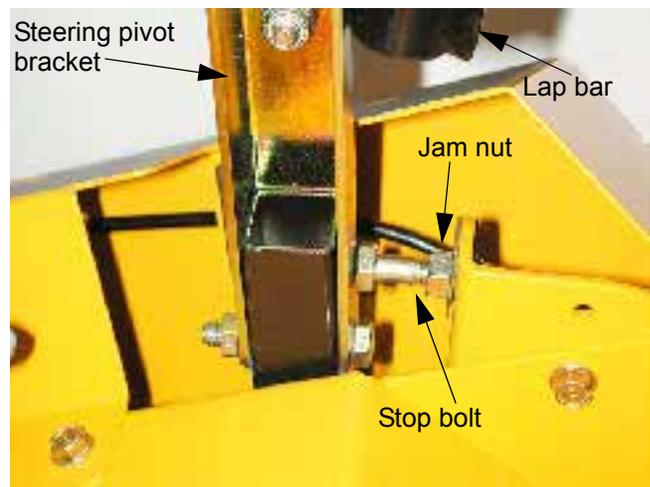

Figure 6.36
- 6.36. With the engine turned off, push each lap bar gently forward until it reaches the end of the travel allowed by the return-to-neutral mechanism. See Figure 6.36.